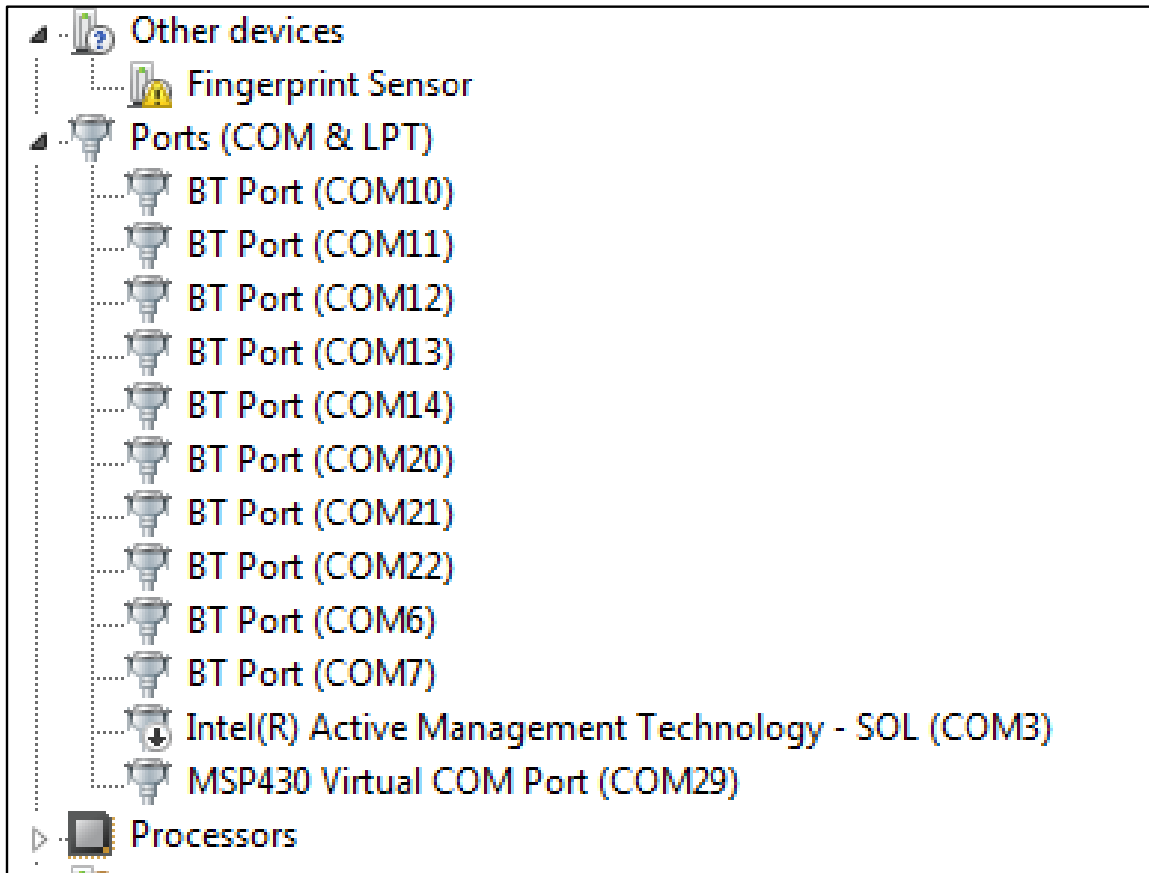

Figure 4. Determining which Port is Assigned by Windows in the Host PC for Communication to the LMP93601
Step 5. Make sure the included USB cable is connected to the host PC and the LMP93601EVM. Next, select the communication port on the host PC by looking up the allocated port in the device manager. To open the "Device Manager" in MS Windows, click on the "Start" tab, then on the "Control Panel". In the Control Panel window, locate the "Device Manager" tab, and click on the tab to open it. Click on Ports (COM&LPT) to identify the allocated communication port in the host in the host PC as shown in Figure 4.